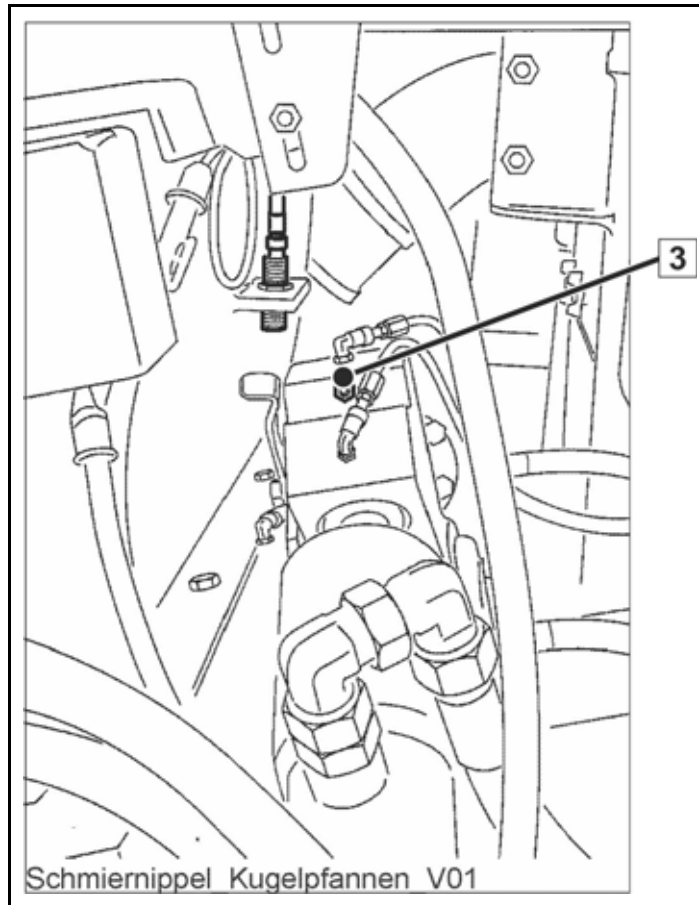

Fig. 307
The additional grease nipples, e.g. (1) (**Fig. 307**) do not have to be lubricated!